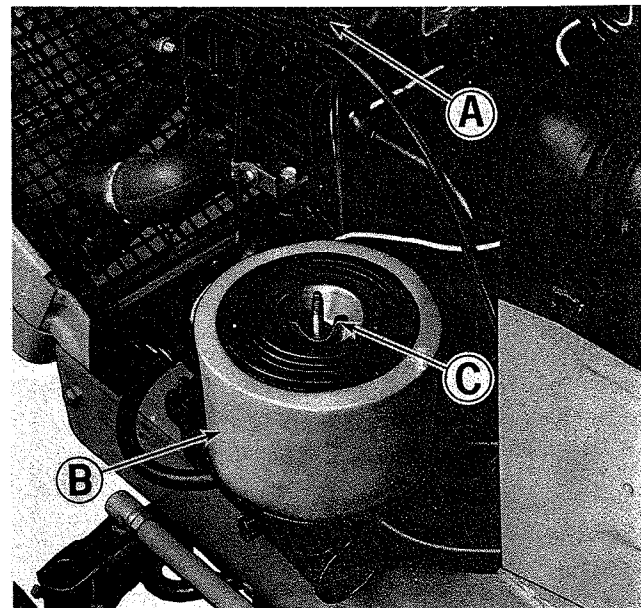

Figure 20. Air cleaner with cover removed on left side of engine.
See figure 20. All grass and chaff should be removed from the engine fins (A); **CAUTION: THE ENGINE FINS ARE VERY HOT AFTER THE ENGINE HAS BEEN OPERATED. DO NOT TOUCH THEM UNTIL THE ENGINE HAS BEEN ALLOWED TO COOL. NEVER SPRAY WATER ON A HOT ENGINE.**
2. See figure 20. Remove the foam precleaner (B) and wash it in liquid detergent and water and squeeze dry.
4. Install the foam precleaner as shown in figure 20.
The engine air cleaner is made up of two types of filters. The foam filter (Figure 20, Item B) and a dry filtering element. The foam element should be cleaned and oiled every 25 hours as explained under the Every 25 Hour Maintenance Service. Once a year or every 100 hours, whichever ever occurs first, the paper element should be removed and cleaned or replaced. Proceed as follows:
2. See figure 20. Remove the foam element (B) and clean and oil it as described in the Every 25 Hour Maintenance Service.
3. Remove wing nut (C) and remove the paper element from the air cleaner.
5. See figure 20. Replace the paper element and wing nut (C) and tighten it securely.
6. Install the foam element (B) over the paper element as shown in figure 20.